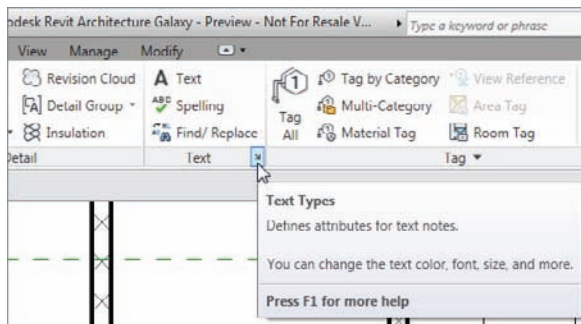

FIGURE 5.52 Accessing the text properties
1. On the Text panel of the Annotate tab, you will see a small arrow pointing down and to the right, as shown in Figure 5.52. Click it.